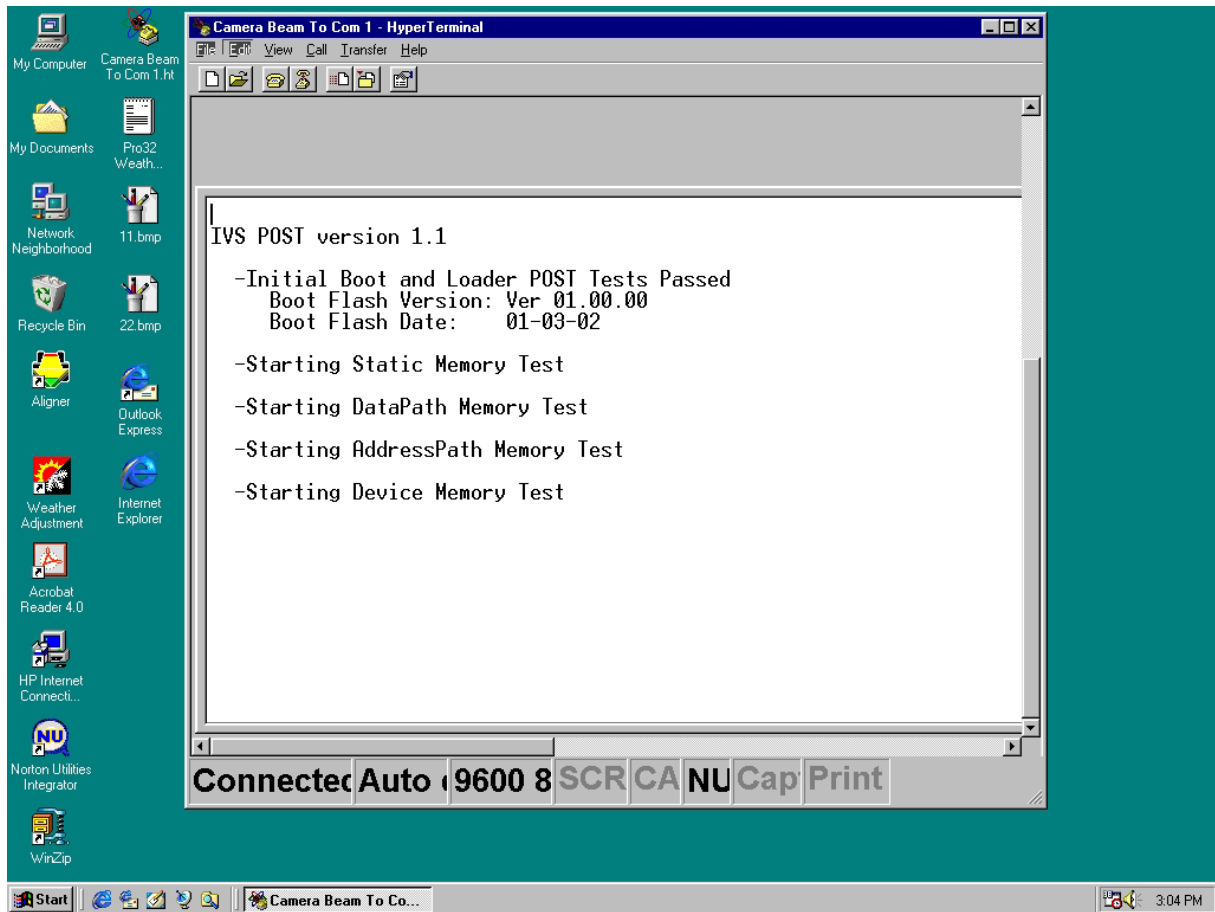

Figure 3-59
7. The IVS processor completes a POST and displays the boot up sequence on the Hyperterminal screen. (Figure 3-59)